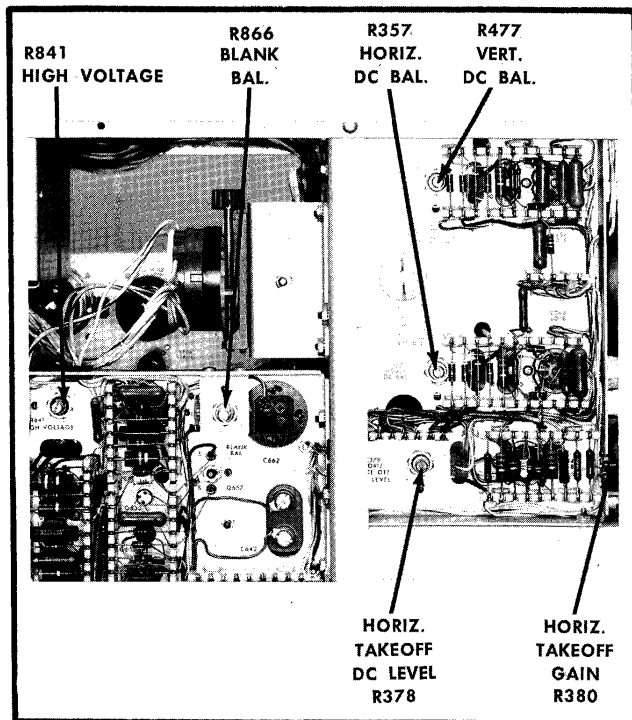
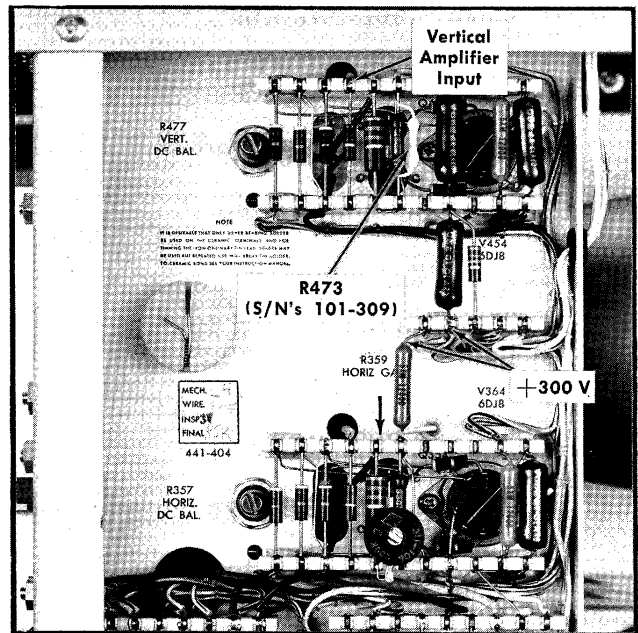

Fig. 5-2. Location of some adjustments on left side of oscilloscope (for instruments with serial numbers 101 through 309).
Fig. 5-3. Location of input to Type 661 Vertical Amplifier.
Disconnect the resistor from +300 volts. Carefully position the crt spot to the left edge of the graticule. Reconnect the resistor to +300 volts. If the spot does not move exactly 10 centimeters (plus or minus the error percentage just determined), adjust R841 (HIGH VOLTAGE control, Fig. 5-2) until the spot moves the correct amount. It may be necessary to repeat this procedure several times for proper adjustment.
Connect the dc voltmeter between the center terminal of R866 (BLANK BAL control) and pin 6 of V874 to check the differential voltage between the crt blanking deflection plates. V874 is located between the two ceramic strips adjacent to the control (see Fig. 5-2). Adjust the BLANK BAL control for zero volts on the meter. Turn off the Type 661, install both plug-in units, and turn the Type 661 back on.
Alternately connect and disconnect a 2-meg, 1% resistor between a +300-volt test point and the vertical amplifier input (see Fig. 5-3). The display should be spot alternately at  $-3$  and  $+3$  centimeters,  $\pm 2$  millimeters. If the scan is more than  $\pm 2$  millimeters from being 6 centimeters, check the vertical amplifier transistors and tubes. If they are satisfactory, then change the value of R473 according to the following procedure.
If it is necessary to change the value of R473, remove the existing resistor (Fig. 5-3). Obtain a group of  $\frac{1}{4}$ -watt, 1% deposited-carbon resistors ranging from about 5 through 12 megohms (such as 5, 7.5, 9, 10, and 12). Grasp a new resistor with the pliers and touch its leads to the ceramic strip terminals at the location for R473. Observe the crt display for 6 centimeters. When a resistor is found that gives the correct gain, trim its leads to the correct length and solder it in exactly the same position as the resistor removed.
Alternately connect and disconnect a 2-meg, 1% resistor between a +300-volt test point and the vertical amplifier input (see Fig. 5-3). The display should be spot alternately at —3 and +3 centimeters,  $\pm 2$  millimeters. If the scan is more than  $\pm 2$  millimeters from being 6 centimeters, check the vertical amplifier transistors and tubes. If they are satisfactory, adjust the HIGH VOLTAGE control (R841; see Fig. 5-2) for 6 centimeters between spots as the 2-meg resistor is alternately applied and removed.
Connect a 1.5 k, 1% resistor between the vertical amplifier input (Fig. 5-3) and ground. Horizontally position the crt spot to the graticule centerline, and adjust R477 (VERT. DC BAL.) to vertically position the spot to the centerline.
Set the Type 661 HORIZONTAL DISPLAY switch to EXT. HORIZ. INPUT, 5 VOLTS/CM, DC. Connect the Time-Mark Generator through a 50-ohm cable and a 47 k,  $\frac{1}{2}$  watt resistor to the Type 661 vertical amplifier input (shown in Fig. 5-3). Use item 20 of "Equipment Required" at the end of the 50-ohm cable. Set the Time-Mark Generator to deliver ~~50  $\mu$ sec~~ 500  $\mu$ sec time marks.